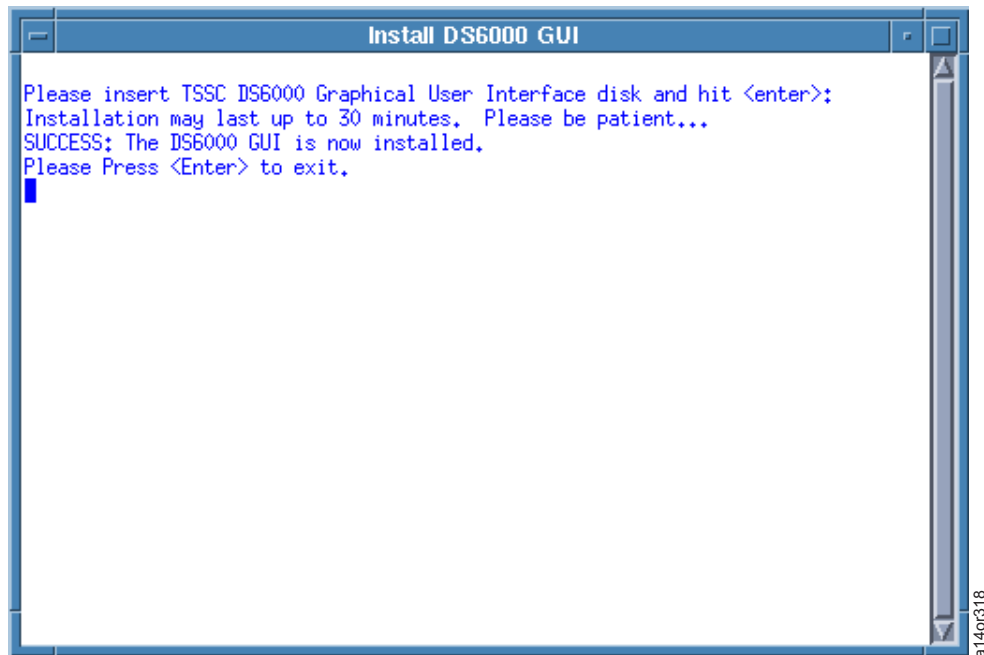

Figure 2-78. Install DS6000 GUI
2. From the Main Menu, select **Browser Functions > Storage Manager GUI Functions > Install GUI.** A Terminal window that is similar to Figure 2-78 on page 2-52 appears and prompts you to insert the appropriate Storage Manager Graphical User Interface CD-ROM.